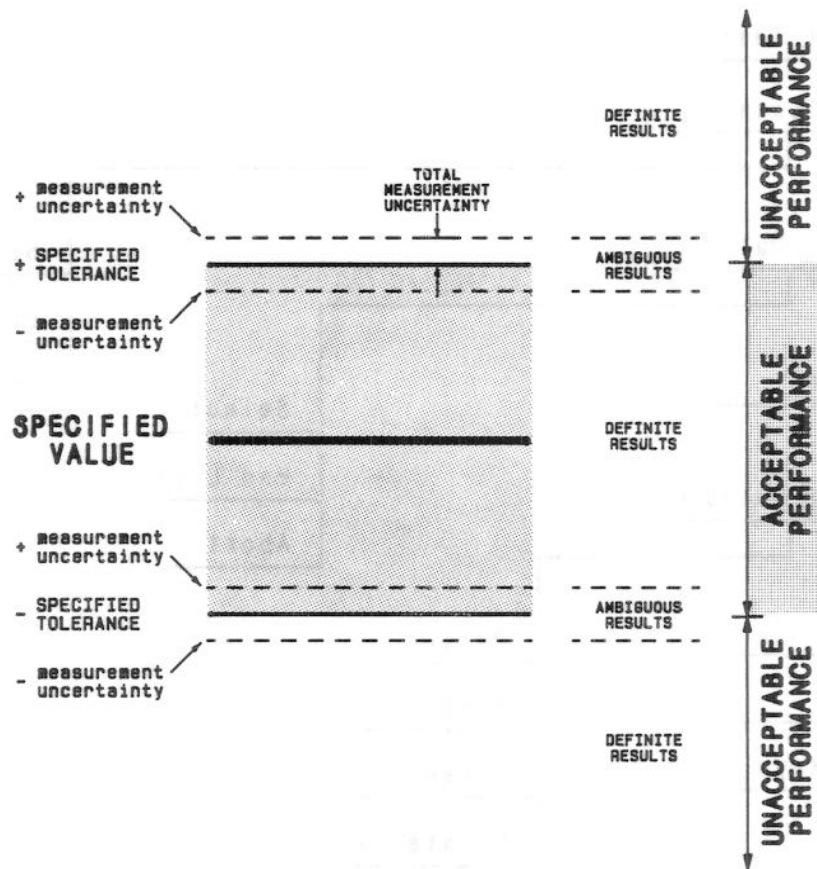

Figure 2-6. Acceptable Measurement Range
The Performance Test program combines individual uncertainties involved in each measurement to calculate total uncertainty. This total uncertainty is then multiplied by a coefficient, and this result is combined with the specifications to set test limits. These limits are used to determine whether the system under test has acceptable performance. Hewlett-Packard uses a coefficient of zero; therefore, the test limits are set at the limits of the specification range. See Figure 2-6.
The total uncertainty determines which measured values are definite and which are ambiguous. See Figure 2-6. These values are listed in tabular format with test results that are sent to the computer screen or a printer. The Parameter Menu is used to set the destination and format of the test results.
The way that total measurement uncertainty is combined with the specification is separately controlled for each test. Each test has a measurement uncertainty coefficient that is multiplied by the total measurement uncertainty. This result is then combined with the specification to determine whether it is within specification. The HP 70700A Digitizer Performance Tests program shipped with a modular system has this coefficient set to zero. Figure 2-6 illustrates acceptable performance when the coefficient is set to zero.
**When the Performance Test program is used to verify warranted performance, the uncertainty coefficient must be zero for all tests. Figure 2-6 illustrates what is acceptable performance (i.e., within specification) when the coefficient is zero.**